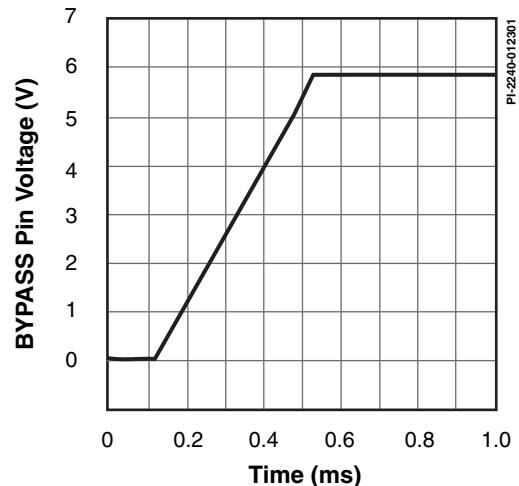

Figure 16. BYPASS Pin Startup Waveform.
D. See Typical Performance Characteristics section Figure 16 for BYPASS pin startup charging waveform.